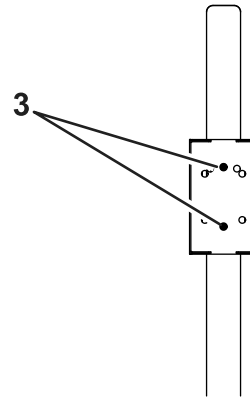
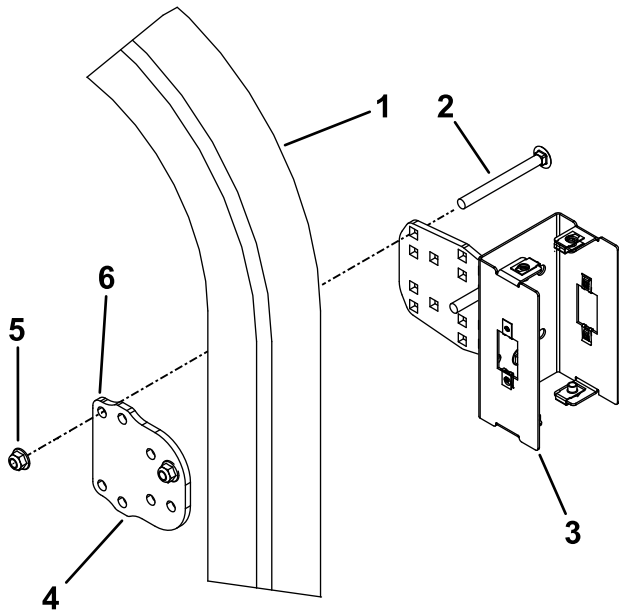

Figure 18
Figure 19
Note: Each machine series has a specific location on the rollbar. Refer to Figure 10 through Figure 18.
- Assemble the light assembly to the roll bar with rollbar bracket, 4 carriage bolts (3/8 x 3, 4 or 5 inches), and 4 flange locknuts (3/8 inch); refer to Figure 10 through Figure 18 and Figure 19.